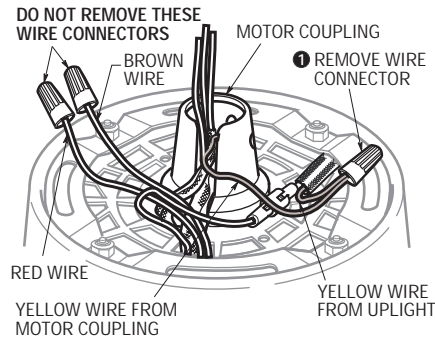
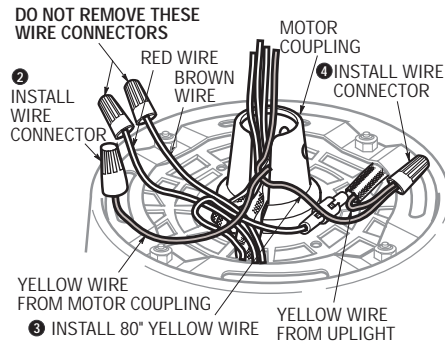

Figure 8
Figure 9
**14. For Ceiling Fan Models CF4500 and CF4800 Only.** Locate the two yellow wires terminated by a wire connector. Remove the wire connector and separate the wires (Figure 8). One yellow wire comes from the motor coupling; cap the end of this wire using a wire connector (supplied) (Figure 9). Separate, untwist and unkink the 80" yellow wire lead (supplied with the fan) and cut off the connector from the end of the wire. Strip 1/2-inch of insulation from the end of this wire. Then join the 80" yellow wire to the yellow wire from the uplight using a wire connector (supplied). (Figure 9).